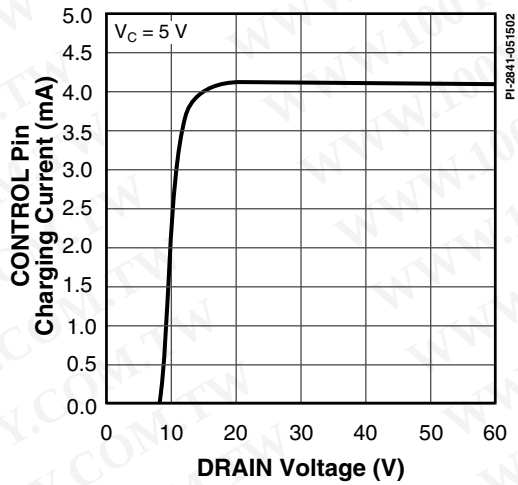

Figure 45. I_C vs. DRAIN Voltage.
- D. It is possible to start up and operate DPA-Switch at DRAIN voltages well below 16 V. However, the CONTROL pin charging current is reduced, which affects start-up time, auto-restart frequency, and auto-restart duty cycle. Refer to Figure 45, the characteristic graph on CONTROL pin charge current (I_C) vs. DRAIN voltage for low voltage operation characteristics.